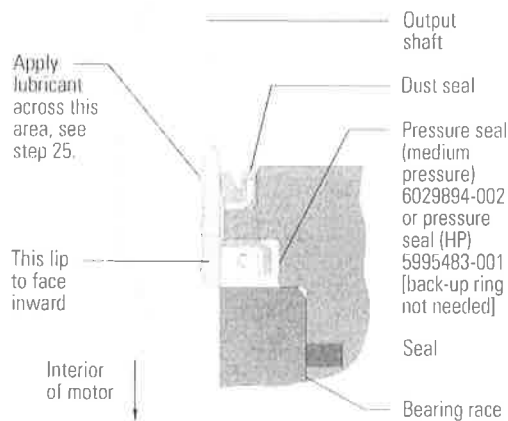

Figure 14A (version -009)
Note: With use of Pressure Seal 6029894-002 (Medium Pressure) or Pressure seal (HP) 5995483-001, Back-up ring does not need to be installed, see Figure 14A (Version-009)